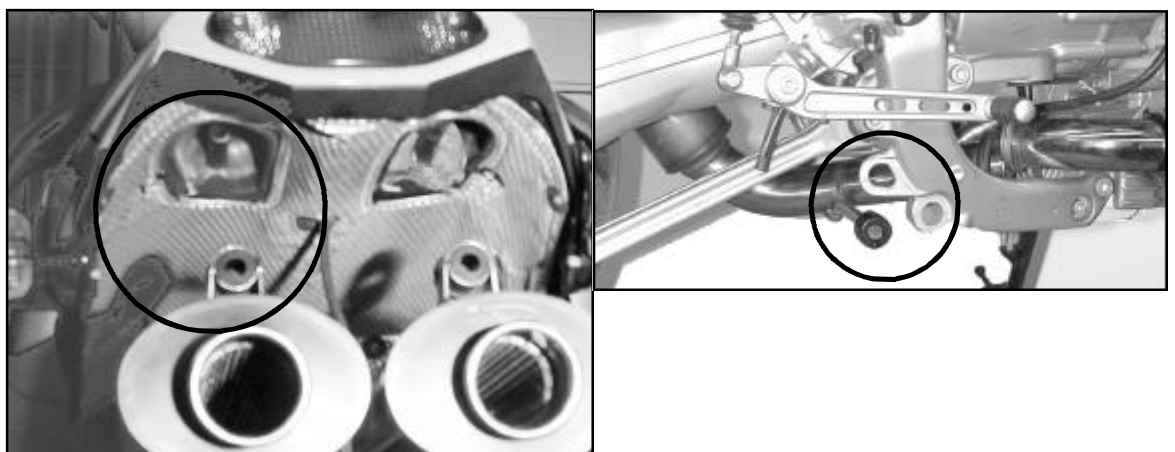

Figure 10
11. Carefully position the Exhaust System so the rubber bushings locate on their mounts; two under the seat and two on the frame below the swingarm pivot. Figure 10.